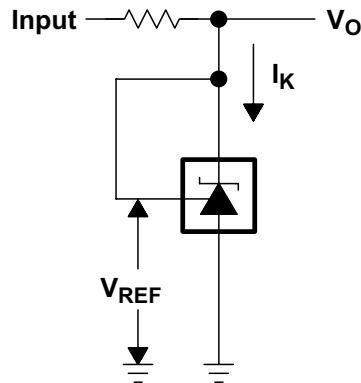

Figure 6-1. Test Circuit for  $V_{KA} = V_{REF}$ ,  $V_O = V_{KA} = V_{REF}$
T A = full range (1) (see Figure 6-1)